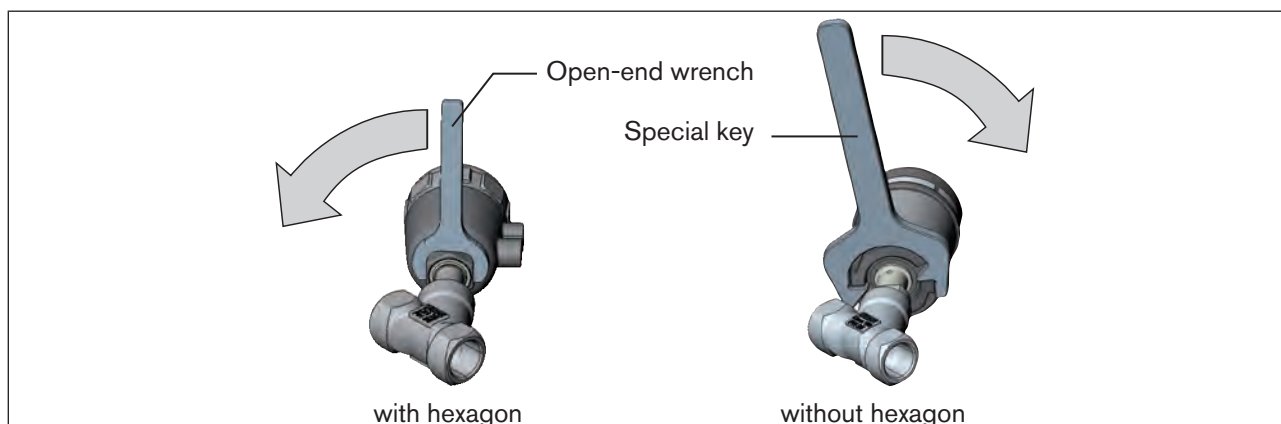

Figure 30: Rotating with special key / open-end wrench
- ▶ Rotate the actuator module in the specified direction only (see "Figure 30") .